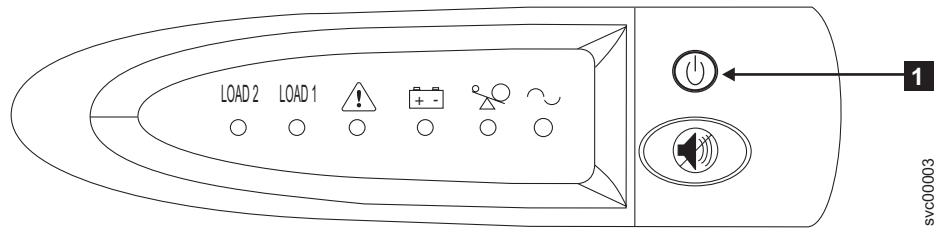

Figure 261. The 2145-1U uninterruptible power supply front panel assembly
1. At the front of the 2145-1U uninterruptible power supply, press and hold the on/off button ( in Figure 261 on page 593) until the power light is extinguished (approximately five seconds). On some versions of the 2145-1U uninterruptible power supply, you need a pointed device, such as a screwdriver, to press the on/off button. The 2145-1U uninterruptible power supply enters standby mode.